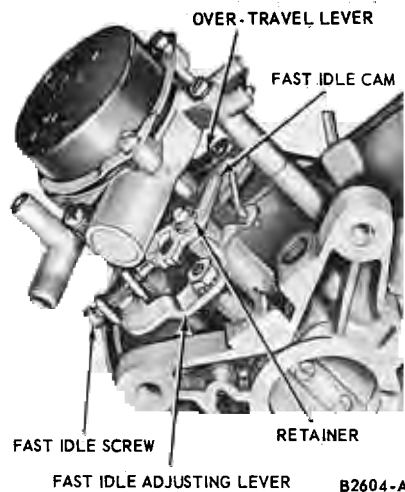

FIG. 10—Fast Idle Cam and Fast Idle Lever
1. Remove the fast idle cam retainer (Fig. 10).
and remove the lever assembly (Fig. 10). If necessary, remove the idle screw and the retainer from the fast idle adjusting lever.